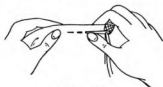

FIGURE 11
*Uneven Basting* (Figure 7). — This is a running stitch (see Figure 11) that is temporarily used to hold two edges of material
*Stitch* (Figure 11). — Hold the material firmly in the left hand, between the thumb and first finger of each hand with the first fingers almost touching. With the needle in the right hand